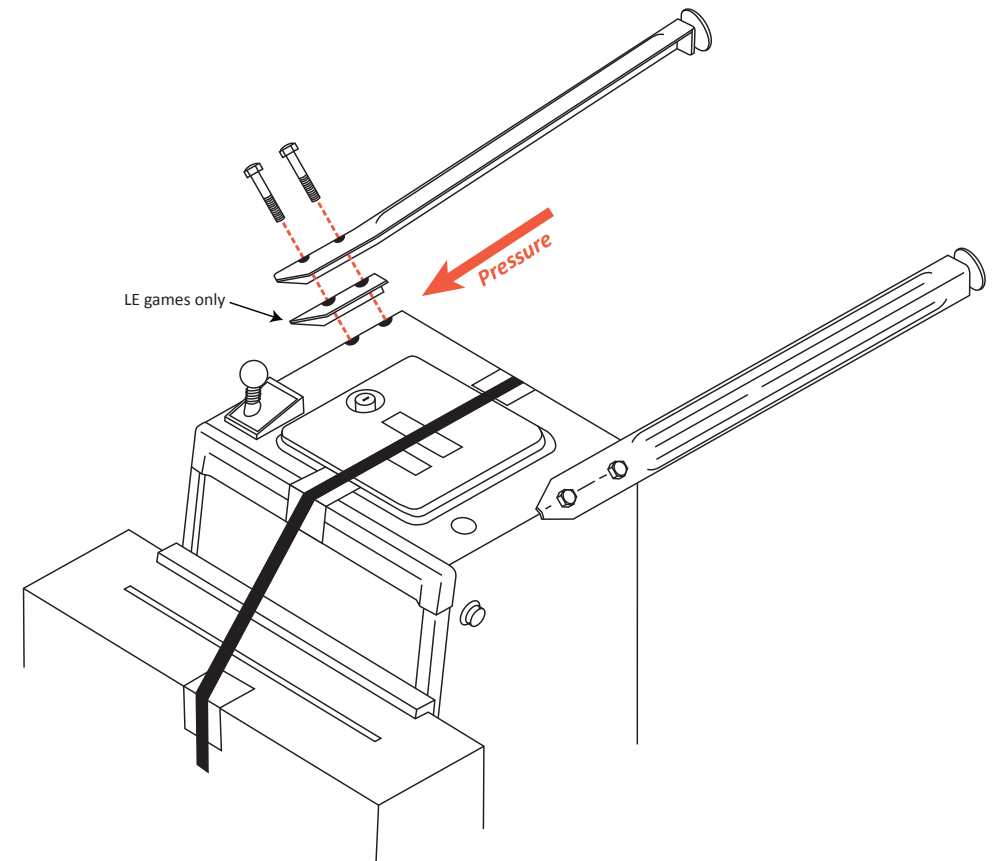

Figure A5. Installing the front legs and cabinet protectors.
5) Locate the four heavy, felt cabinet protectors (LE games only) and eight acorn-head leg bolts in the loose parts. Position a felt cabinet protector behind each leg, thread 2 leg bolts through the leg and protector, and attach both to the cabinet (see figure A5). Using a 5/8" socket and ratchet or a 5/8" wrench, tighten the bolts firmly, while maintaining pressure (in the direction of the red arrow) on each leg.